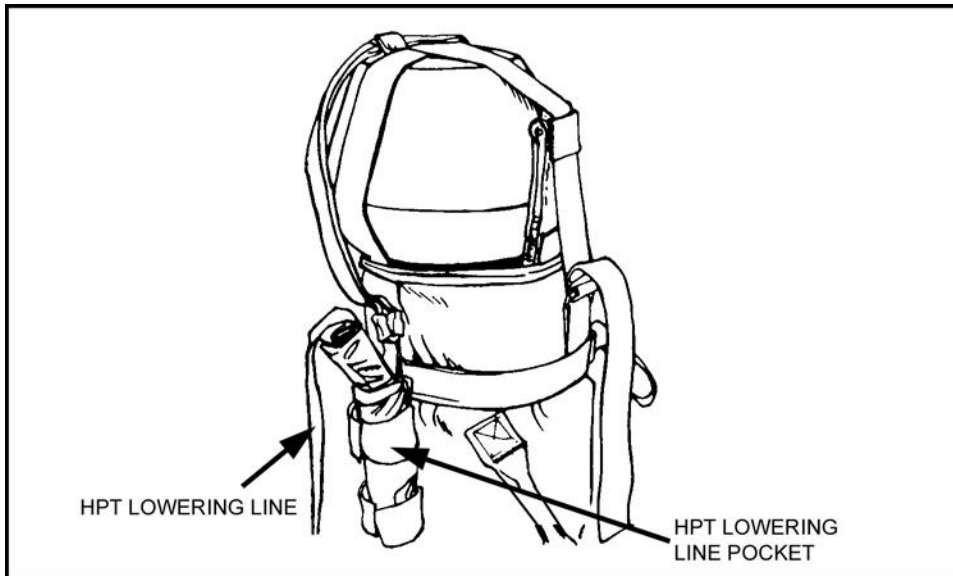
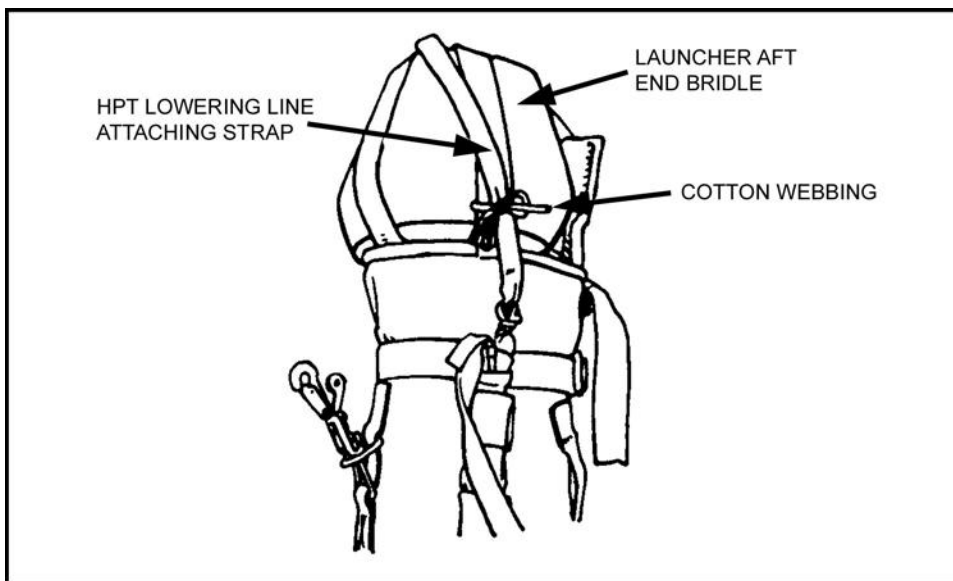

Figure 12-39. Lowering line inserted in pocket.
Figure 12-40. Lowering line attaching strap secured.
(2) S-fold and place the lowering line inside the lowering line stow pocket (Figure 12-39, page 12-40). Tighten the securing tabs (Figure 12-40, page 12-41). The ejector snap of the HPT lowering line protrudes from the lowering line stow pocket.
(3) Install one turn of 1/4-inch, 80-pound test cotton webbing around the lowering line attaching strap and the adjacent launcher aft end bridle strap, and tie securely.